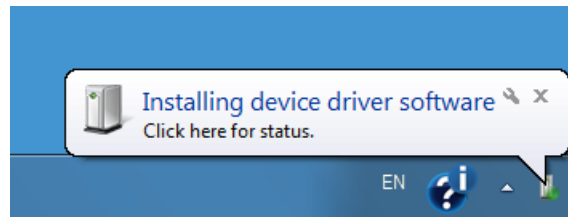

Figure 4.3: Windows notification indicating device installation.
2. Connect your new Artec 3D scanner to the computer and wait until Windows detects the device and installs the necessary drivers. You may see a notification similar to one shown in Figure 4.3.